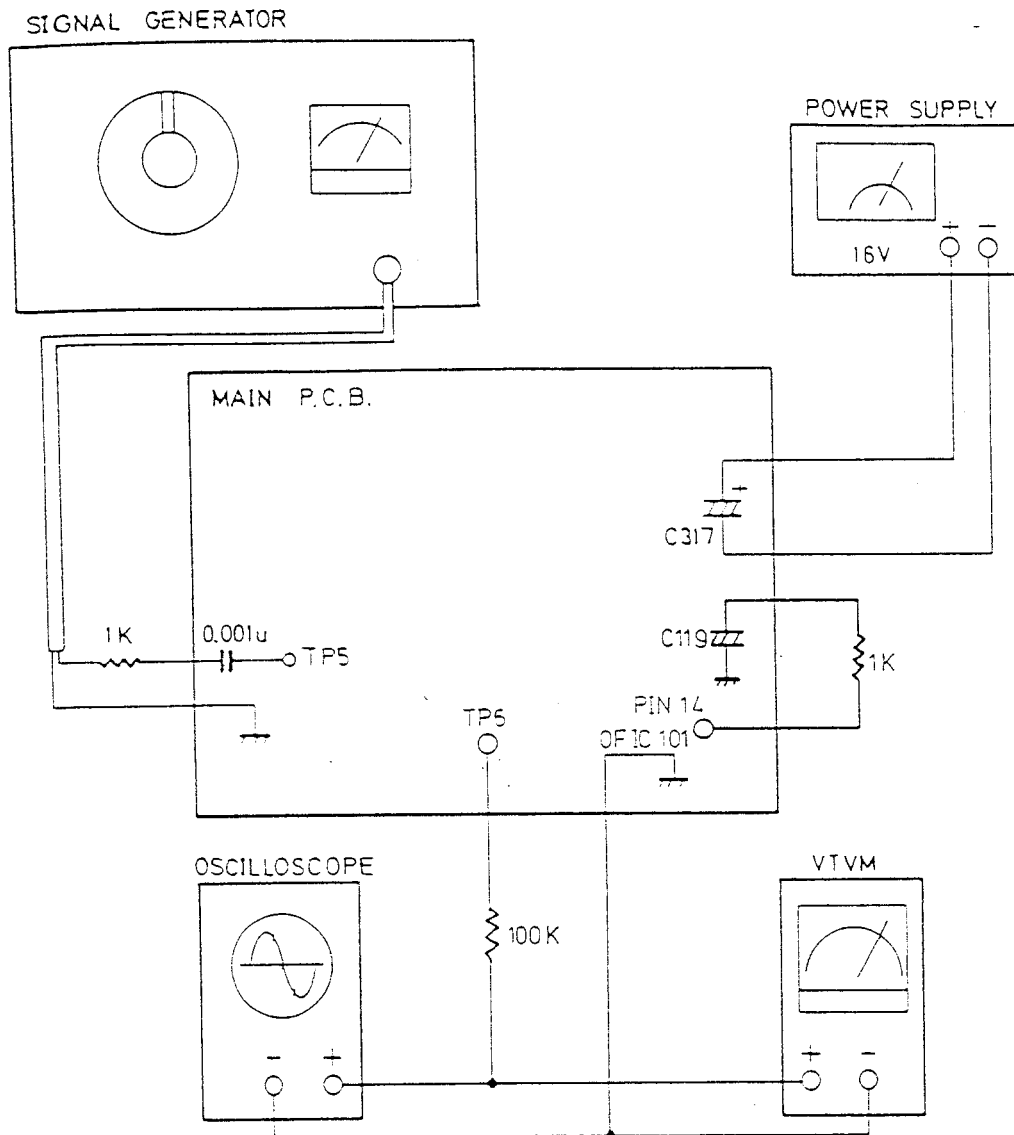

Fig.11
- (1) Connect the S.G. output to TP5.
- (2) Connect the oscilloscope input in series with a 100 Kohm resistor to TP6
- (3) Connect a 1 Kohm resistor across IC101 Pin 14 and B+12V.
- (4) Adjust L108 for symmetrical waveform and the 5.5MHz marker point rest on the DC line. The 5.5MHz marker and the corresponding  $\pm 100$ KHz marker points should be a straight line after adjustment, see Fig. 11 as shown.